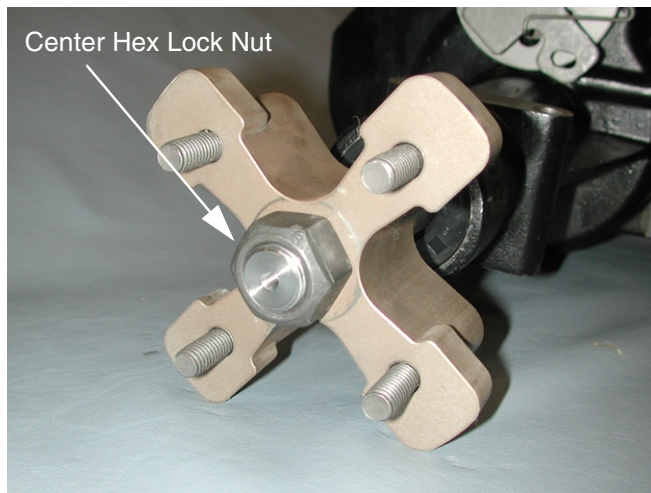

Figure 2
5. Remove the center hex lock nuts securing the axle hubs to the axles using a 1-5/16" socket. See Figure 2.